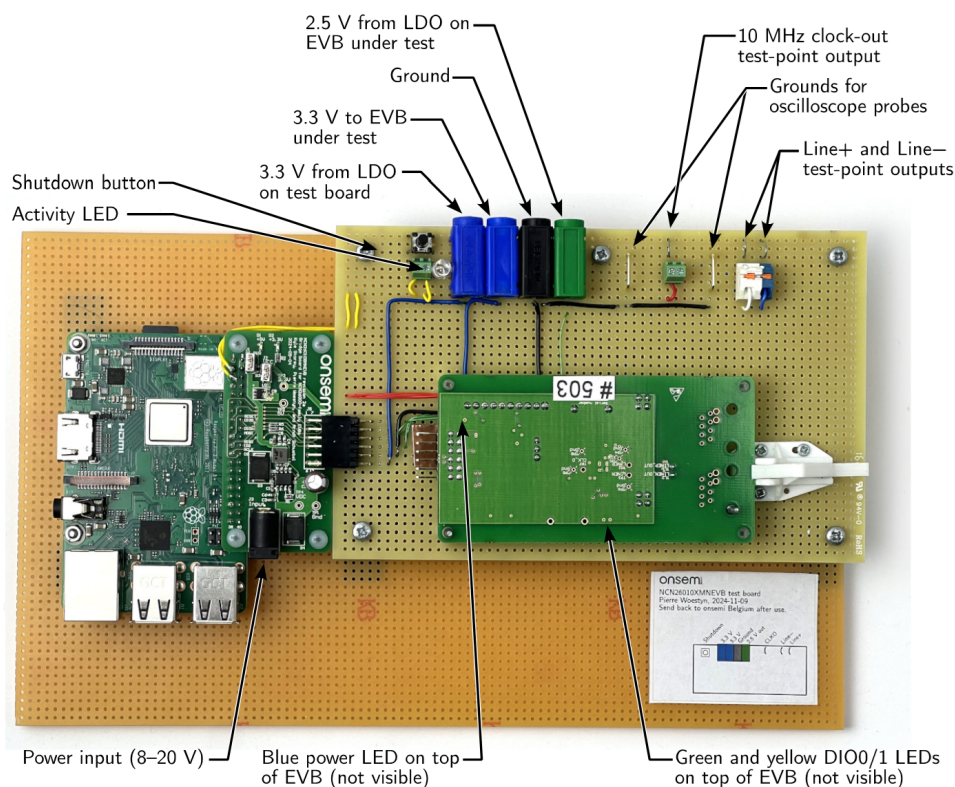

Figure 21. Test Board
Use the dedicated test board (Figure 21) to simplify the connections. Note the test board is not quite optimised; for instance, the 3 LEDs on the EVB are poorly visible. It is also not quite robust; handle it with great care.
20. Power down the Raspberry Pi safely by pressing the power button (Figure 21, centre top). Do *not* remove power until 10 s after the yellow activity LED stops blinking.